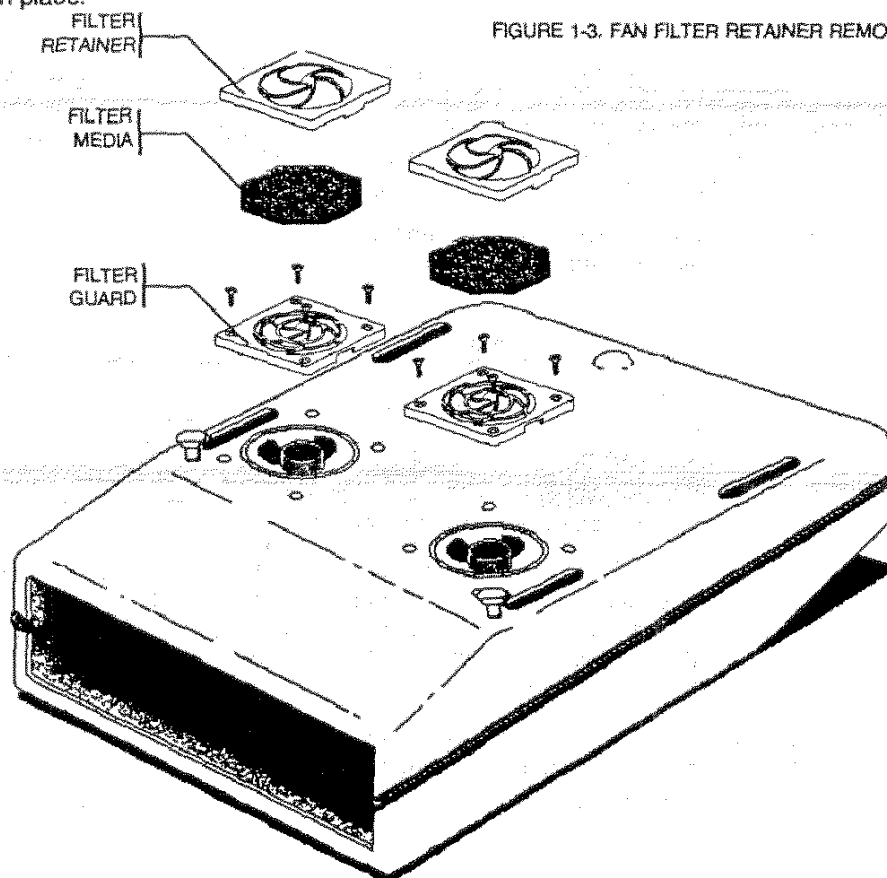

FIGURE 1-4. BOTTOM FAN ASSEMBLIES.
- STEP 2. Remove the filter media from between the retainer and the guard. Refer to Figure 1-4.